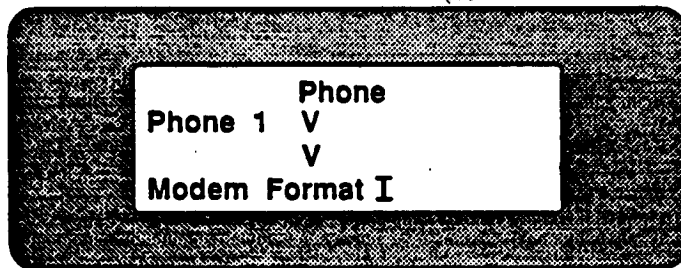

Figure 18: MAKING A PROGRAM ITEM INVISIBLE
8. At the program item level, the letter V appears to the right of the program item prompt – where program item data would normally be entered (see Figure 18). To make the item invisible, press the letter I and the white ENTER key. To make an invisible item visible, use V. I and V can be toggled by pressing the SPACE bar.